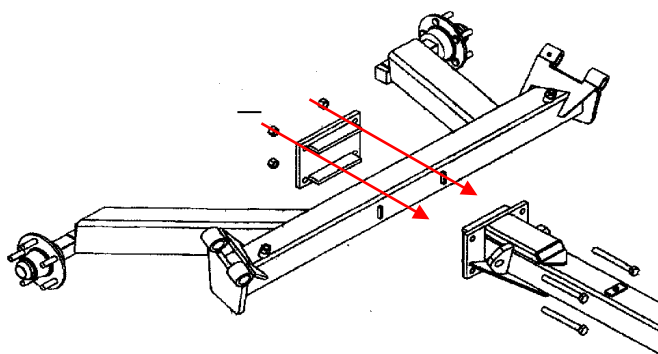

FIG. 29
a) Attch the drawbar (52) to the back frame (31) by bolt (27) and plate of frame (41). Attach the jack (5) and wheel (36). Fig 29.